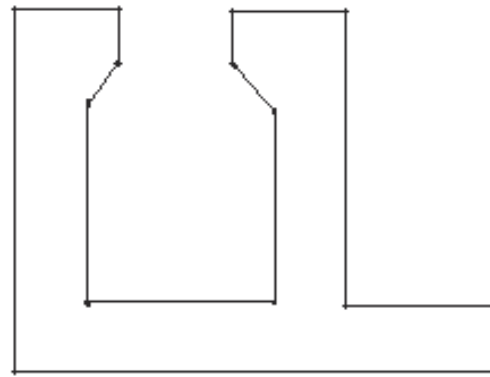

Figure 1-40 Sketch after drawing all the lines
14. Now, draw line G. Using the left mouse button specify the endpoint of line G. Line G is completed, see Figure 1-40.
19. Using the left mouse button, specify the endpoint of line I, see Figure 1-40. A red line is attached to the cursor. Press the middle mouse button to end line creation. You need to do
21. Move the cursor to size the line and using the left mouse button, specify the endpoint of the line. Line J is completed as shown in Figure 1-40.
22. Move the cursor to the right of the sketch and using the left mouse button specify the endpoint of line K as shown in Figure 1-40.
23. Move the cursor downwards. Using the left mouse button, specify the endpoint of line L, see Figure 1-40.
24. Move the cursor to the right of the sketch and using the left mouse button, specify the endpoint of line M as shown in Figure 1-40.
The sketch is completed and is shown in Figure 1-40. But, you will notice that the endpoints of the lines are not joined. If you are not able to notice it then use the **Zoom In** button from the **View** toolbar to zoom a particular area on the graphics screen. As mentioned in the previous tutorial, the sketch will be closed when you add the dimension. You can also trim the corners of the sketch to close the corners of the sketch.